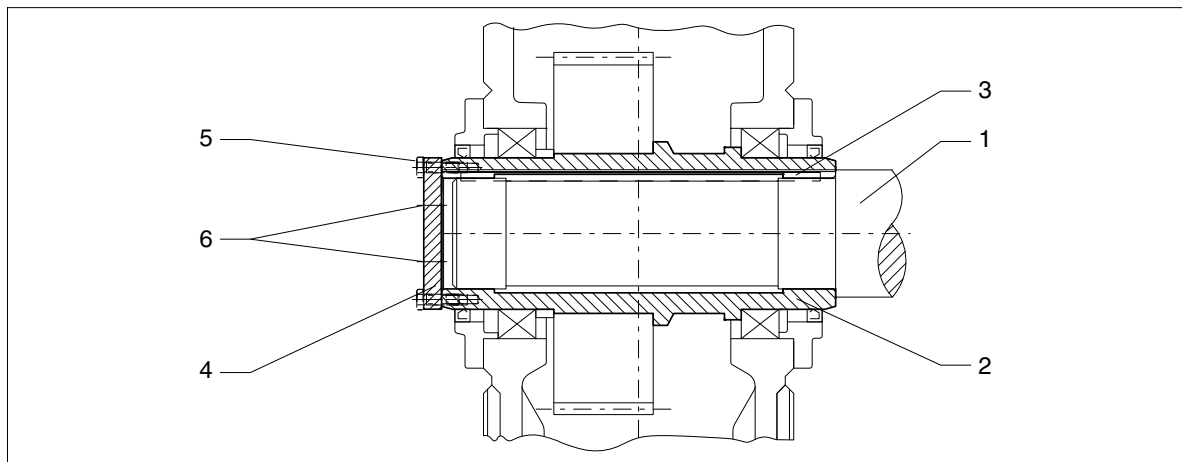

Fig. 35: Hollow shaft with parallel keyway, demounting with end plate
- When the rust-releasing agent has taken effect, pull the gear unit off with the device (see figures 35 and 36).
- preferably using forcing screws in an end plate (see figure 35) or